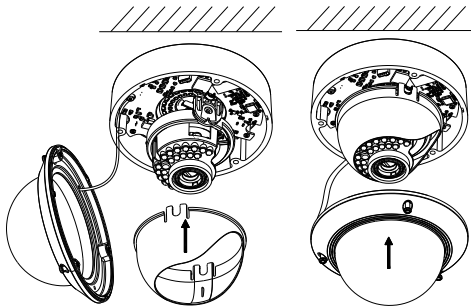

Figure 2-4 Secure Black Liner and Lower Dome
11. Install the lower dome back to the camera and secure it with screws as shown in Figure 2-4.